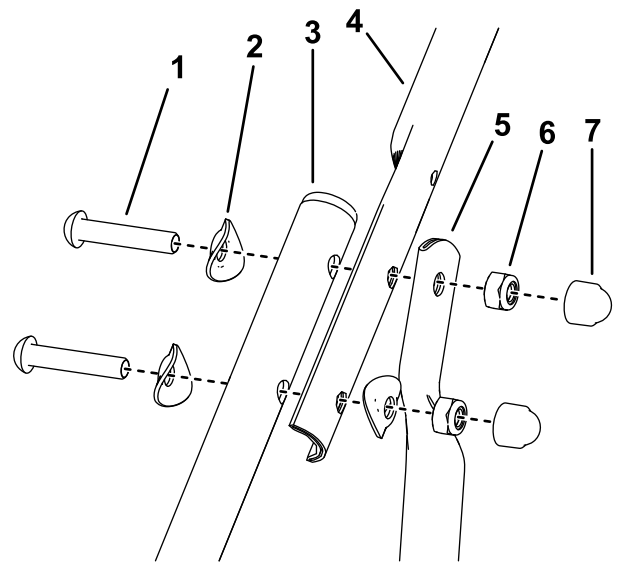

Figure 5
4. Install the upper handlebars and top of the brace handlebars to the lower handlebars with 3 cup washers, 2 bolts and 2 hex locknuts on each side (Figure 5).